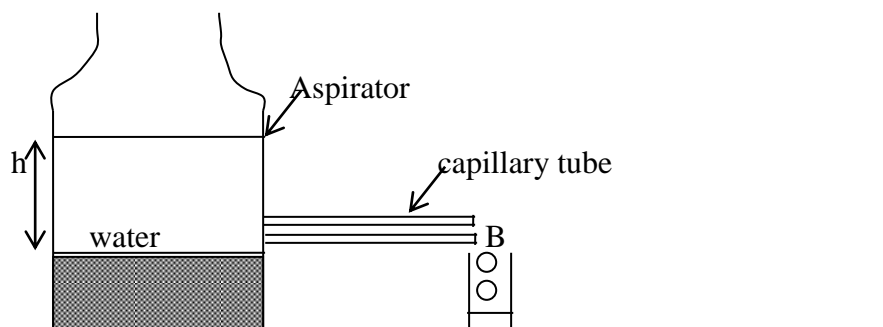

Fig. 10
$h$  = height in metres as shown in fig. 10
1. The apparatus is set up as shown in Fig. 10.